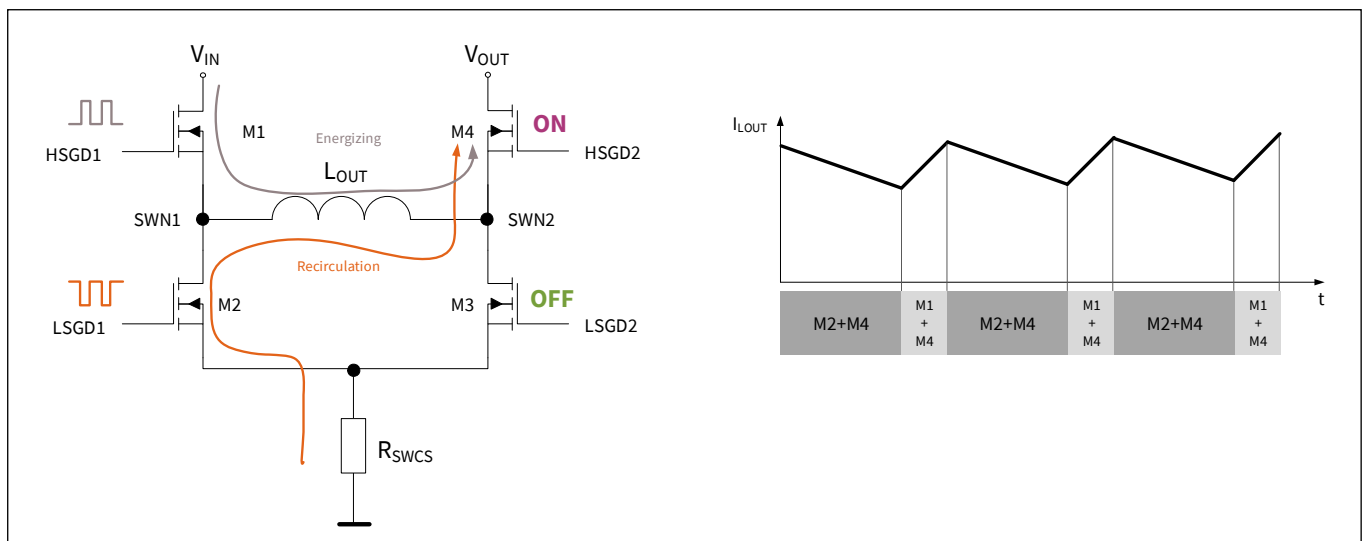

Figure 13 Buck mode operation of H-bridge MOSFETs
- M1 and M2 switches alternatively with PWM control, behaving like a typical synchronous buck regulator (see Figure 13)